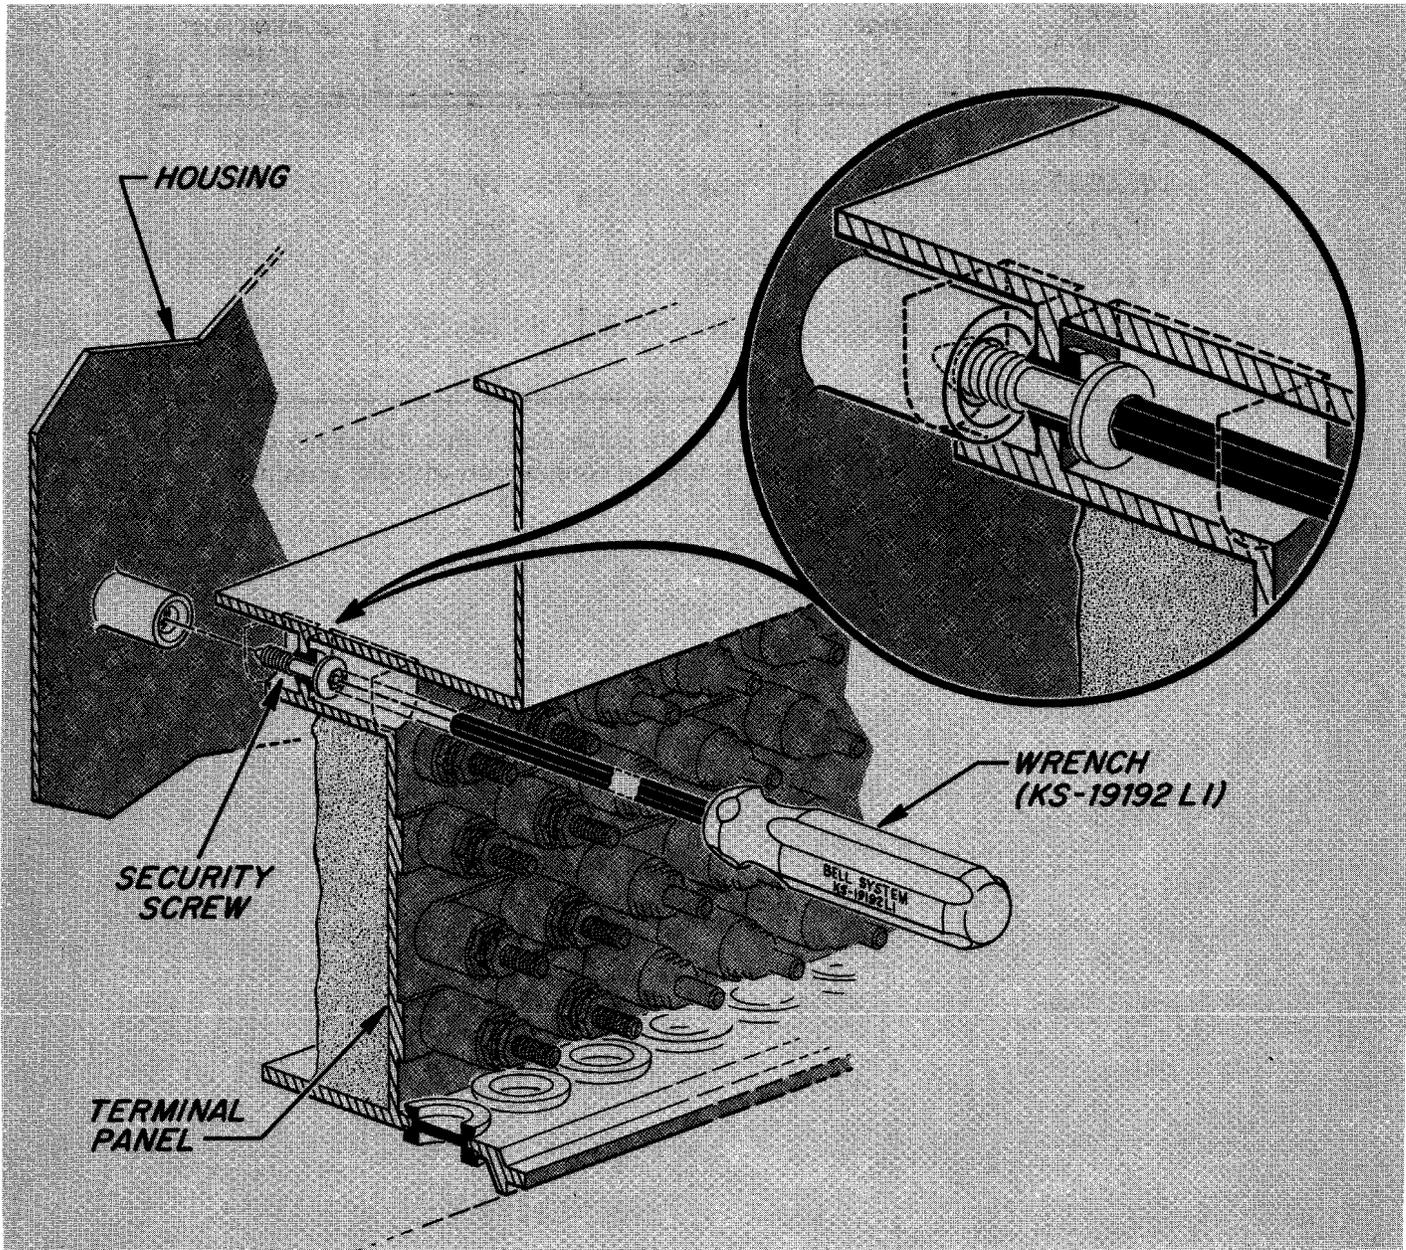

Fig. 4—Security Screw (104A2- and 105A2-Type Cable Terminals)
2.02 The terminal panel assembly of the 104A2 and 105A2 cable terminals snaps in place in the housing assembly. A security screw (Fig. 4)